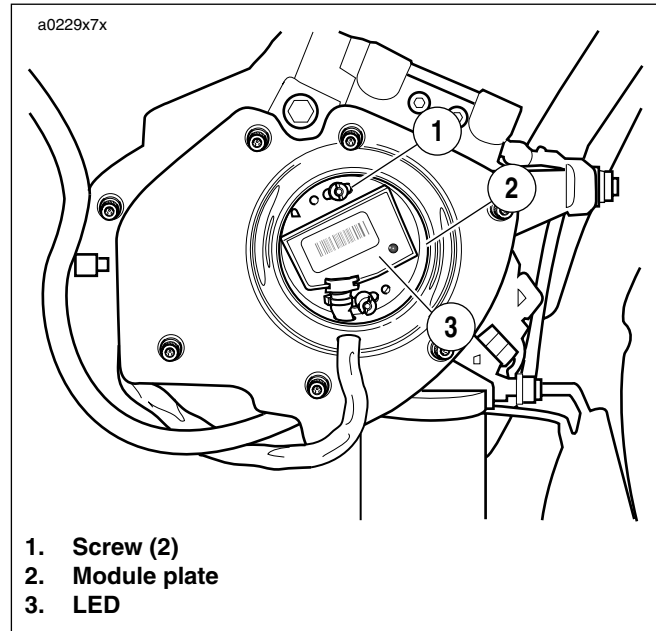

Figure 7-23. Static Ignition Timing (Typical)
9. See Figure 7-23. Loosen two screws and slowly rotate module plate until red LED illuminates. Tighten module plate screws to 10-20 in-lbs (1-2 Nm) when complete.